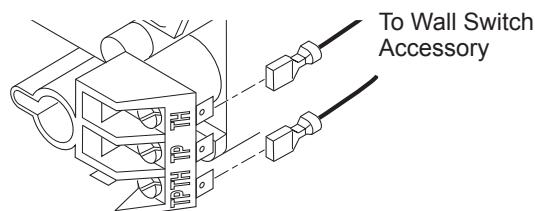

Figure 36 - Connecting Wall Swith to Control Valve
- Connect one terminal of 25 ft. wire for the wall switch to the TPTH terminal on the valve. Connect remaining wire terminal to the TH terminal on the valve. Make sure that the wire terminals are in the positions on the unit as pictured in Figure 36. If wires are not connected as shown the switch will not work.